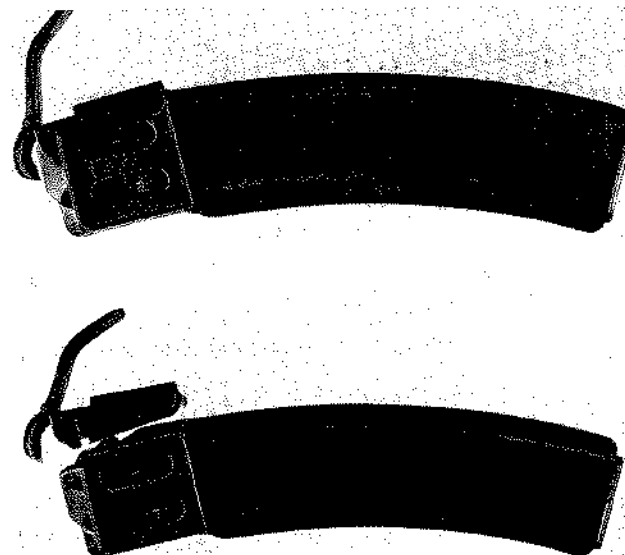

Figure 37. Magazine loader for PPSh-41.
- (1) Sling.
- (2) Two-section T-handled cleaning rod carried in the butt.
- (3) T-shaped folding screwdriver, also carried in the butt.
- (4) T-shaped wrench for adjusting the front sight.
- (5) Magazine filler for 35-round magazines (fig 37).
- (6) Standard Soviet-pattern two-compartment oil-and-cleaning-solvent container.
- (7) Magazine carriers, appropriate to the type of magazine used.